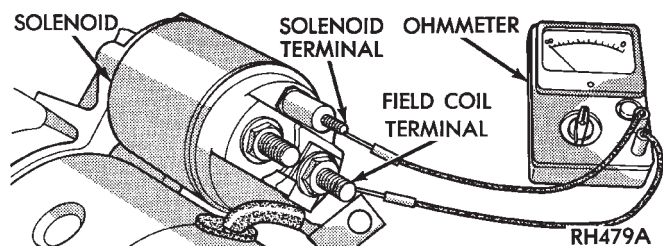

Fig. 18 Continuity Test Between Solenoid Terminal and Field Coil Terminal—Bosch
(2) Check for continuity between solenoid terminal and field coil terminal with a continuity tester. Continuity should be detected (Fig. 18 or 19).